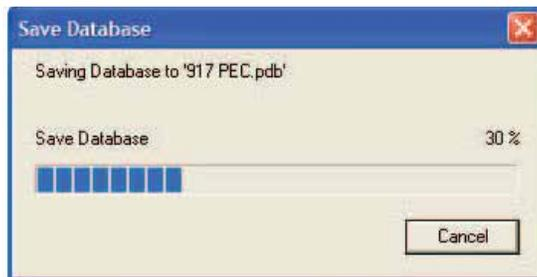

Figure 5.3-5: Save Progress
7. Click **Save**. A new window, shown in **Figure 5.3-5**, will open to show the save progress.